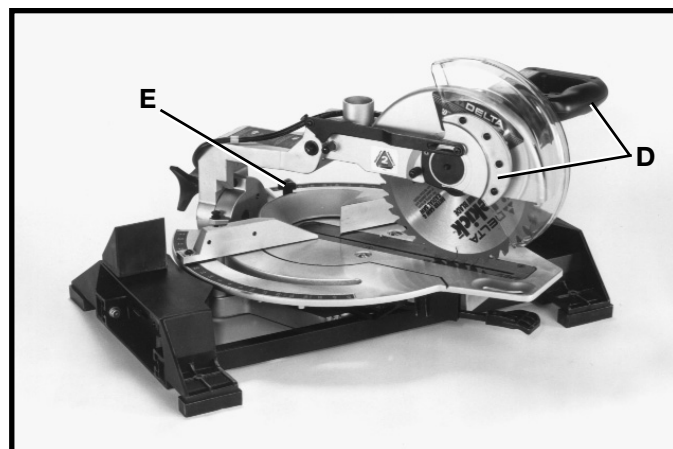
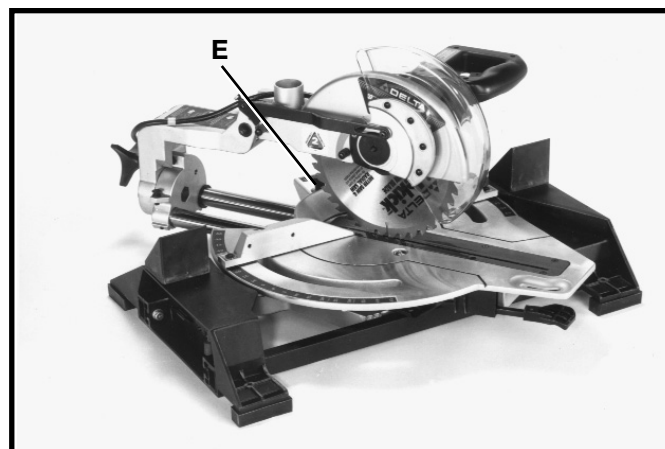

Fig. 15
Fig. 16
4. To move the cuttinghead (D) Fig. 15, to the rear position, loosen lock knob (E) and push cuttinghead (D) to the rear position. Then tighten lock knob (E) Fig. 16.
5. Fig. 16, illustrates the cuttinghead locked in the rear position.